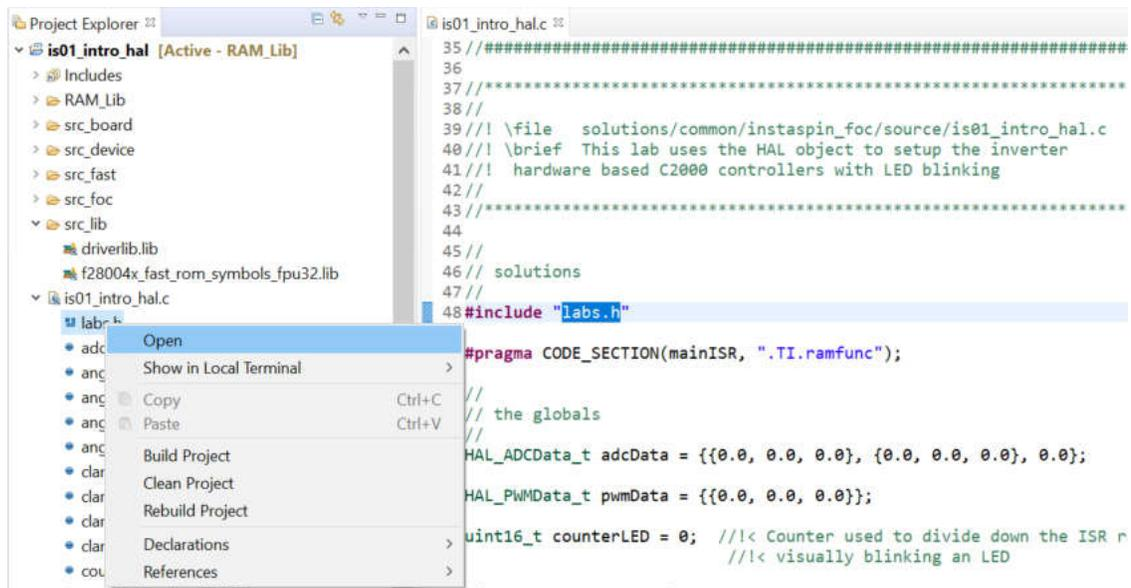

Figure 7: Opening a header file declaration from the Project Explorer tab
2. Right-mouse clicks on “`labs.h`,” selecting “Open” shows “`is01_intro_hal.c`” with the reference to “`labs.h`” highlighted, as shown in **Figure 7**.